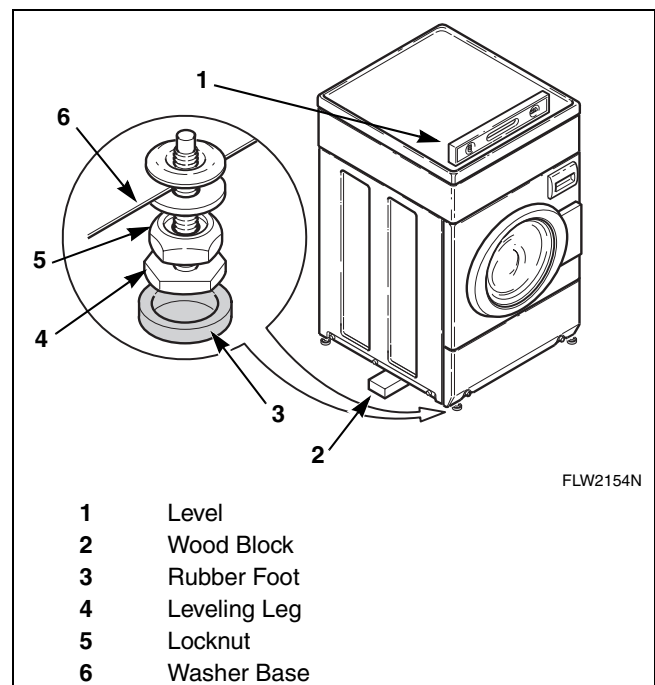

Figure 8
For easier access to leveling legs, prop up washer with a wooden block. Refer to Figure 8.
**NOTE: Level must rest on raised portion of top panel. Refer to Figure 8.**
Place rubber feet (supplied in accessories bag) on all four leveling legs. Refer to Figure 8.